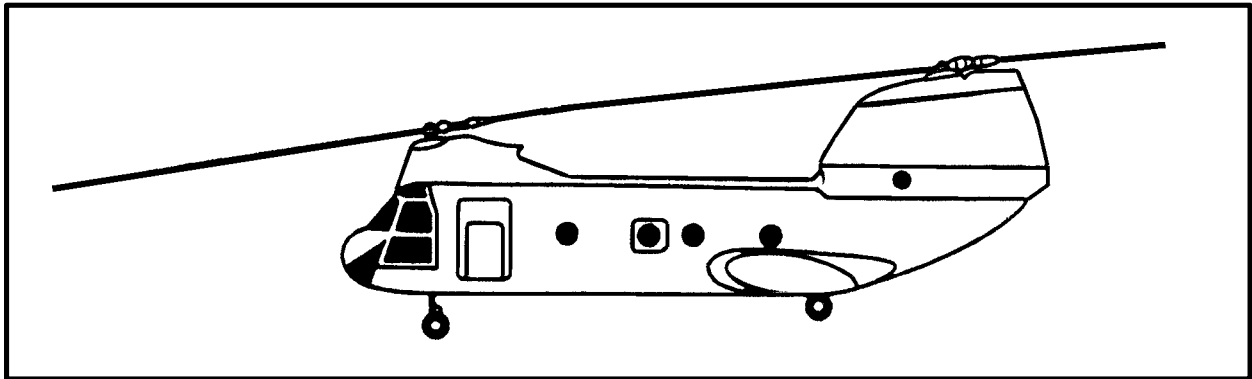

Figure 2-10. CH-46 Sea Knight
d. **CH-46A/D/E.** The CH-46A/D/E Sea Knight (Figure 2-10) is a twin engine, tandem rotor helicopter manufactured by the Boeing Vertol Company. The primary mission of the CH-46 is to rapidly aerial deliver combat troops, support equipment, and supplies, and perform